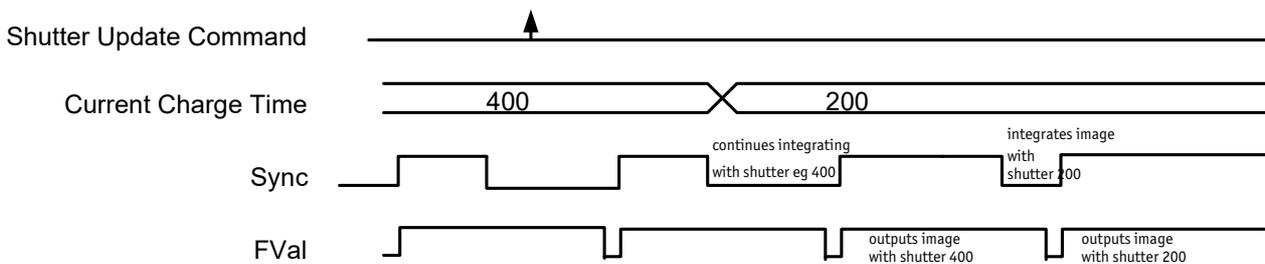

Figure 45: Marlin update timing
- The delay from shutter update until the change takes place: up to 3 frames. Figure 45: Marlin update timing on page 86 demonstrates this behavior. It shows that the camera receives a shutter update command while the sensor is currently integrating (Sync is low) with shutter setting 400. The camera continues to integrate and this image is output with the next FVal. The shutter change command becomes effective with the next falling edge of sync and finally the image taken with shutter 200 is output with a considerable delay.